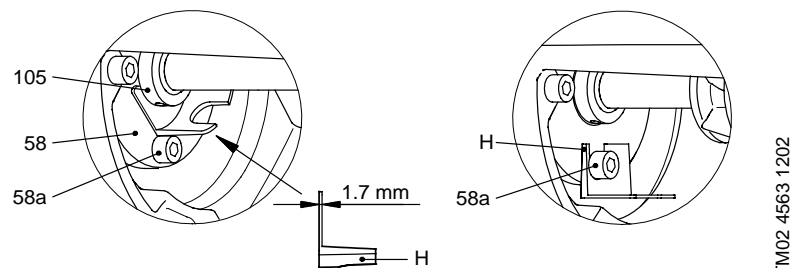

Fig. 1
Keep the shaft seal in position on the shaft by inserting the forked distance piece pos. H between the shaft seal pos. 105 and the holder pos. 58, see Fig. 1. **Note:** Store the forked distance piece on the screw pos. 58a.